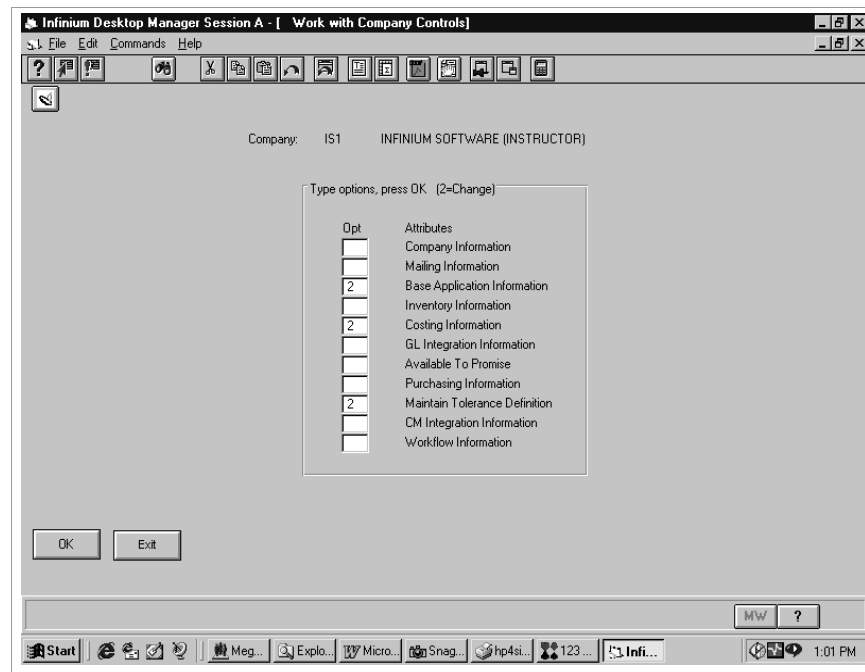

Figure 4-8: Work With Company Controls Selection screen
- 3 Specify the company that you want to work with in the *Company* field. Press Enter. The system displays the screen shown in Figure 4-8.